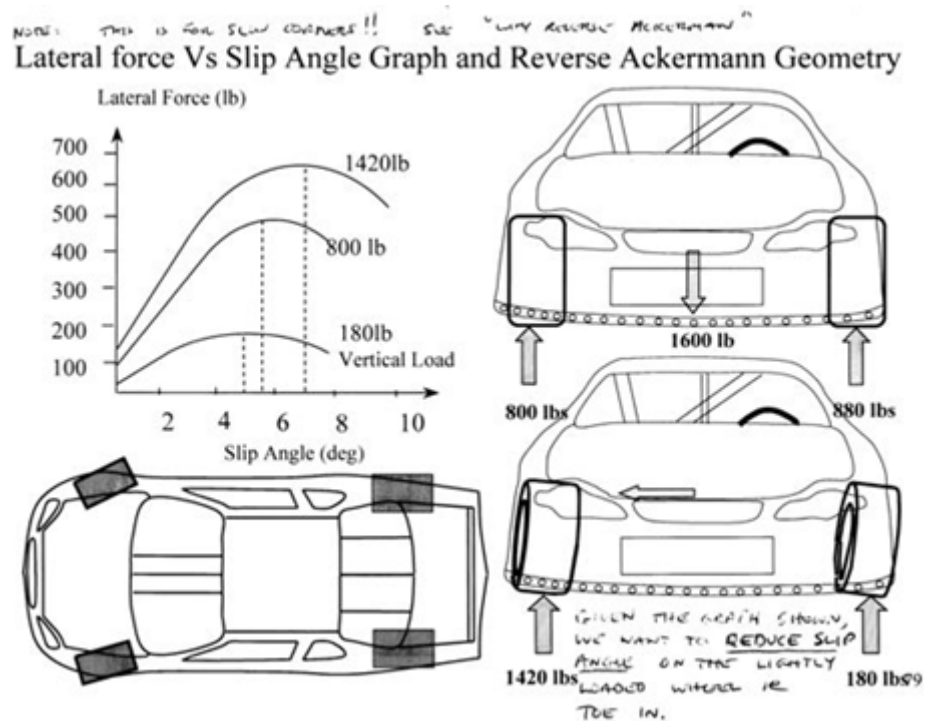

Figure 6a
To determine whether the race car will be better with dynamic toe in or toe out, pro or anti-ackerman, we need to test. Claude suggests a test, as per Figure 6a and 6b, where we analyse whether static toe in or toe out is best, in slow corners vs fast corners. I guess we should use a parallel steering set up, or close to, to do the test. Given that a slip angle variation side to side of one degree equates to a toe setting of 6mm, I think we could choose somewhere around that for our toe in and toe out test settings. It's a question of how sensitive the car is to toe change. It could be you need a toe setting of 10mm (in or out)
- If our race car is faster with toe in, we will use anti-Ackerman. This implies a tyre curve where the lightly loaded inside tyre has maximum grip at a lesser slip angle (Figure 6a)
- Sprint cars and similar speedway, dirt short circuits, can make a lot of use of varying degrees of pro-Ackerman. With dirt tyres we expect very large slip angles. Nascars and similar will use anti-Ackerman (Figure 6a).